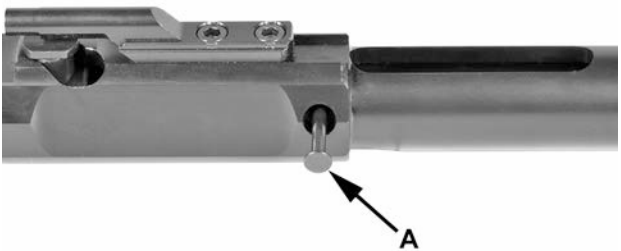

Figure 40
5. Pull the bolt out and install the firing pin retaining pin (A). See figure 40.